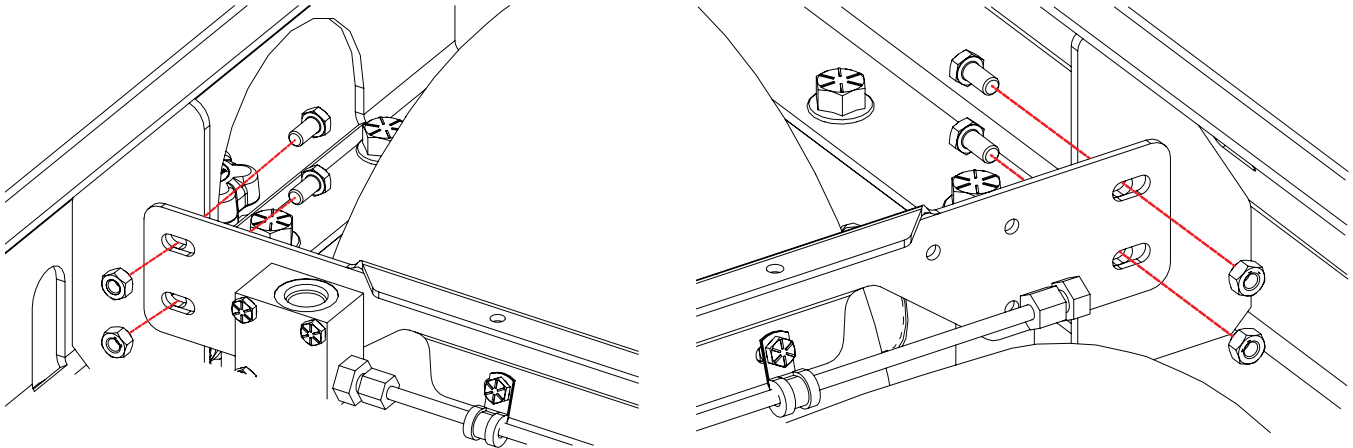

Figure 8: Remove and retain the bolts and nuts that secure the rail to the CNG system mount.
2. Remove and retain the (4) bolts and nuts that secure the rail to the CNG mount structure. Do this at both the PRD side and at the end of the trigger line (Figure 8).